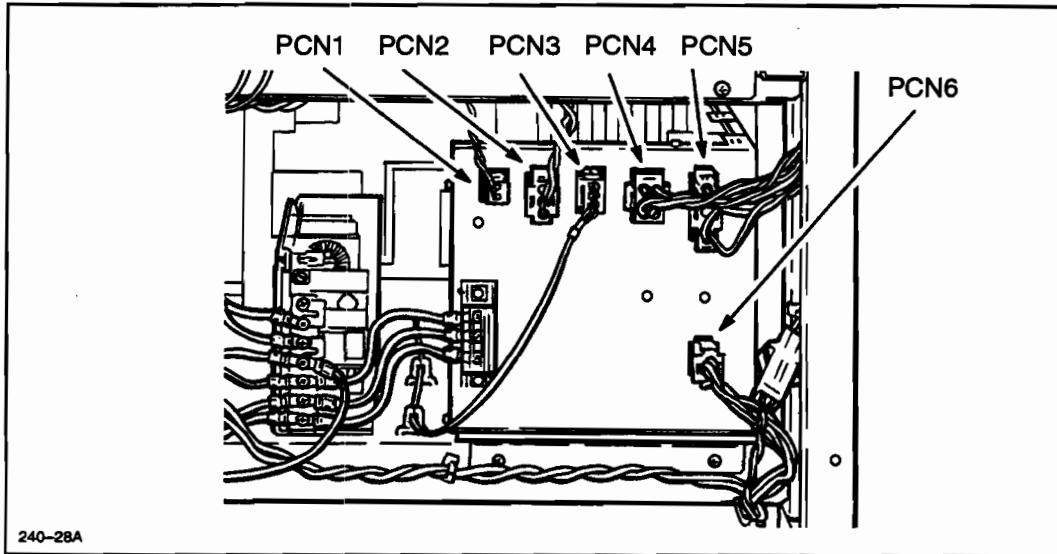

Figure 6-21. HPS1 Removal
3. Disconnect PCN1 through PCN6. See Figure 6-21.
5. Using a common screwdriver, remove the three terminal strip wires. See Figure 6-21.